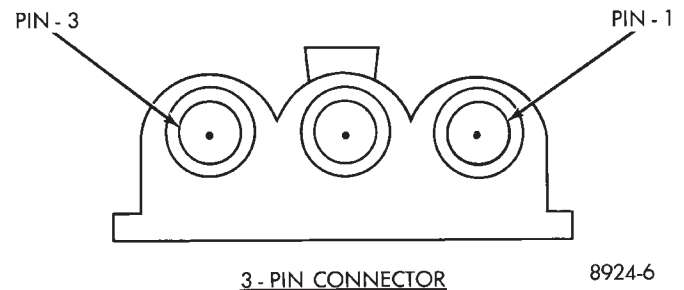

Fig. 6 Fin-sensing Cycling Clutch Switch Harness Connector
(1) Disconnect the 3-wire connector from switch lead located behind the glove box.
(2) Test for voltage between pin #1 to pin #3 on the wire harness connector (Fig. 6). If voltage is not detected, refer to the Front Wheel Drive Car-Wiring Diagrams Service Manual. If voltage is detected, jump pin #1 to pin #3 using a jumper wire. Compressor clutch should engage.